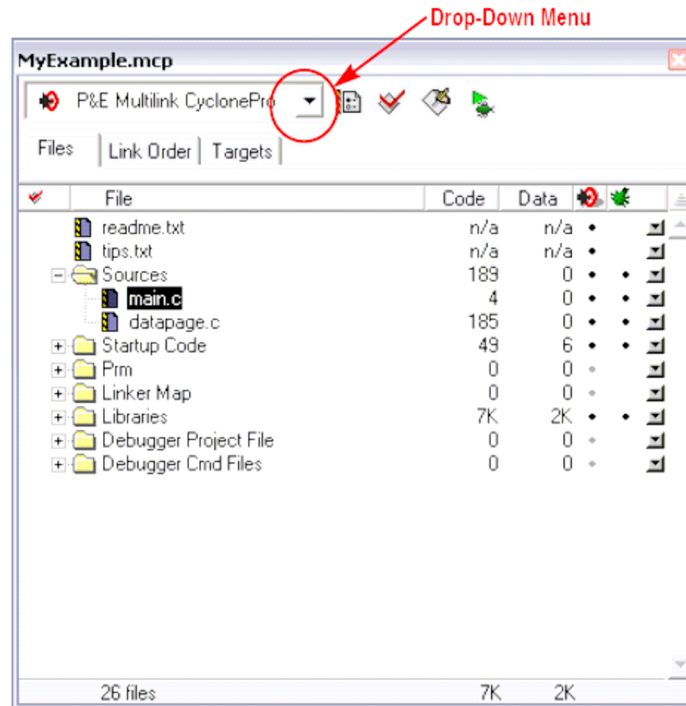

Figure 13. CodeWarrior Project Window
- 2.22 Click Finish — the wizard creates a new project based on information you specified. A project window will appear, docked at left side of main window (see Figure 13).
- 3.2 Click the drop-down menu of the project window (see Figure 13).
- 4.2 Click the + sign next to the sources folder to reveal files (see Figure 13).